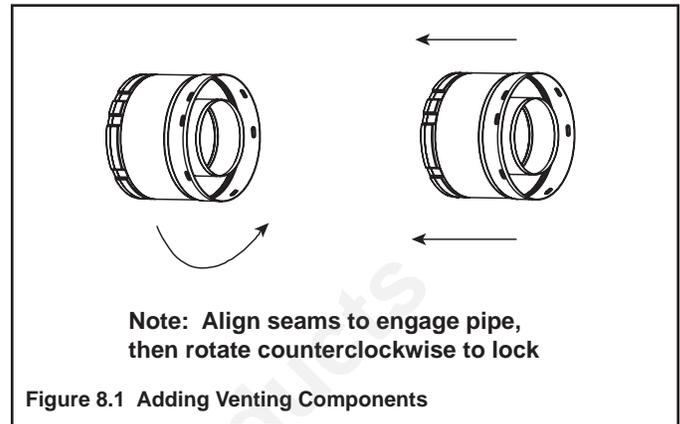

Figure 8.2 High Temperature Silicone Sealant
- Apply a bead of silicone sealant inside the female outer pipe joint prior to joining sections. See Figure 8.2